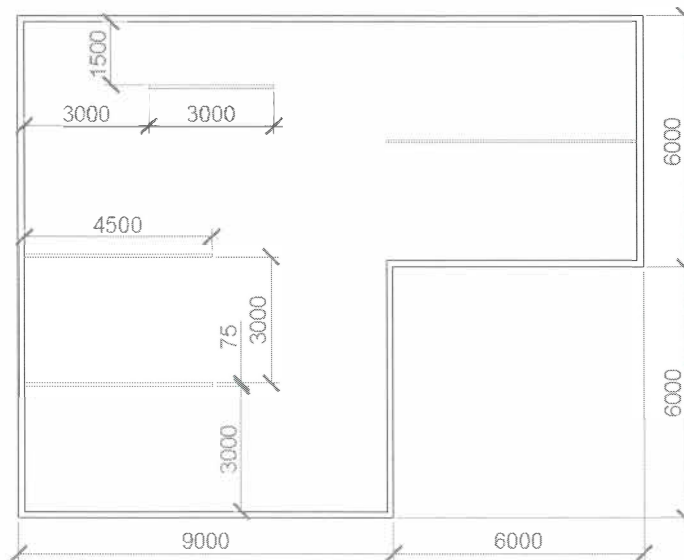

Figure 2–14
In this practice, you will create walls for a simple building outline using the Polyline command and then use Object Snap Tracking and Temporary Track Point methods to help position interior partitions, as shown in Figure 2–14.
2. Make the layer **Walls** current. Using the **Polyline** command, verify that the **Width** option is set to **0**, and then draw the outside of the building as shown in Figure 2–14. Start from the lower left corner and draw counter-clockwise.